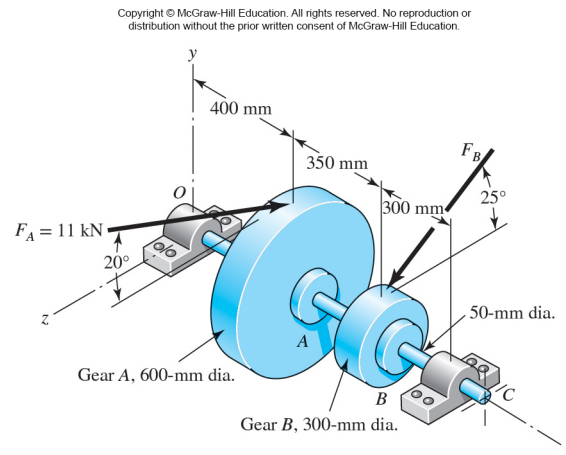

Figure 31: Shaft loading.
**Example 37** The shaft shown in Figure 55 is proposed to support the loads shown in Figure 31.